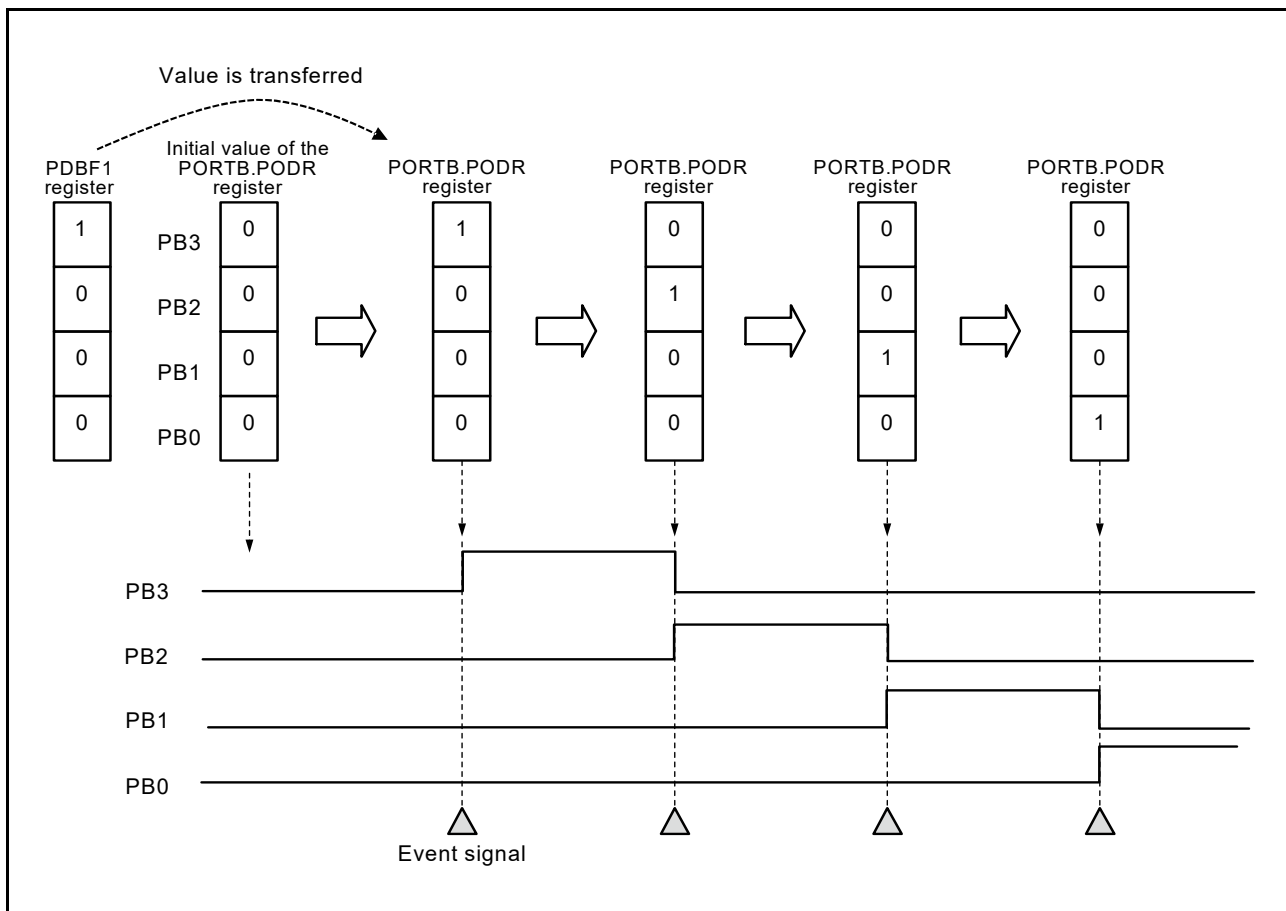

Figure 15.6 Bit-Rotating Operation of Output Port Groups (Port B)
- If an event is input to the output port group while the PGCn.PGCON bit being 1XXb, the PDBFn value is transferred to the PODR register of the port which was specified in the PGRn register, and then the PODR value is rotated bit by bit from MSB to LSB. The initial value to be output to the port group should be provided in the PDBFn register in advance. Examples of bit-rotating operation of output port groups upon an event input (when PGCn.PGCON = 1XXb) is shown in Figure 15.6.